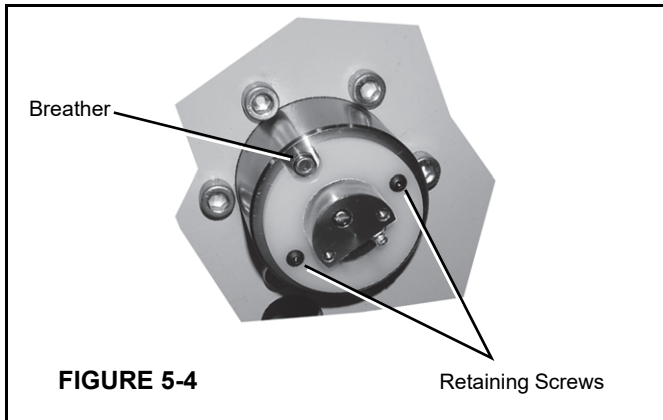

FIGURE 5-4
- Push the DRI into the drum so that the notch is lined up with the breather, refer to Figure 5-4.